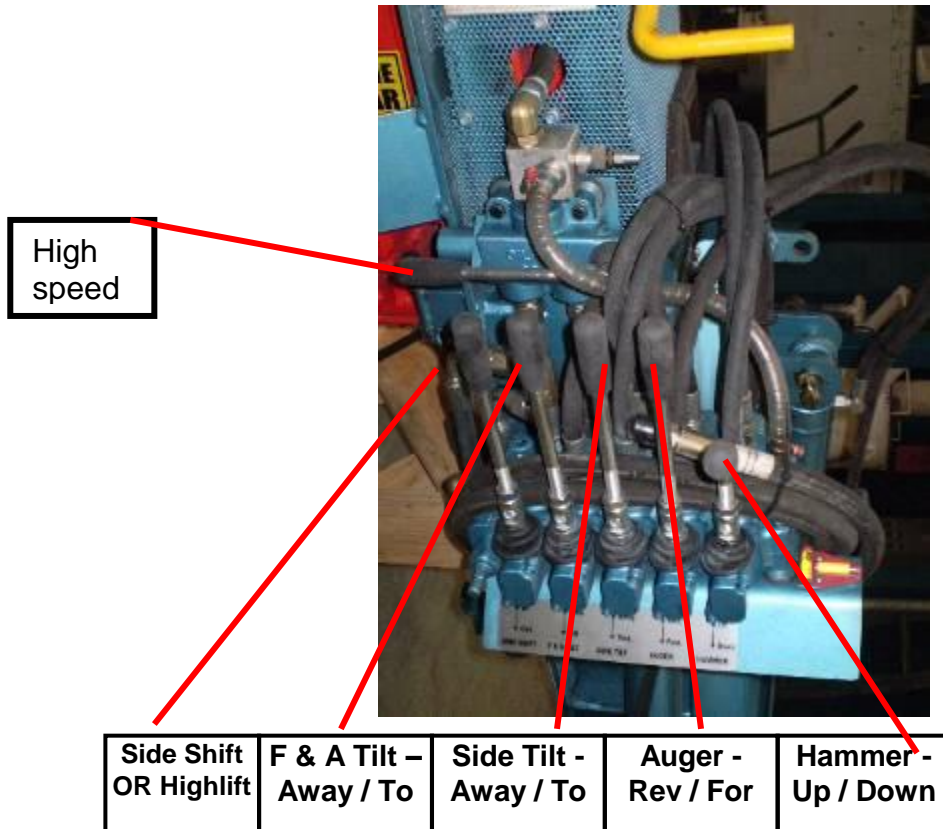

Figure 2 - Valve Controls
4. Supply $\frac{3}{4}$ " B.S.P. end cap to seal hydraulic system when post driver is removed from the tractor. Refer to Figure 2 below.